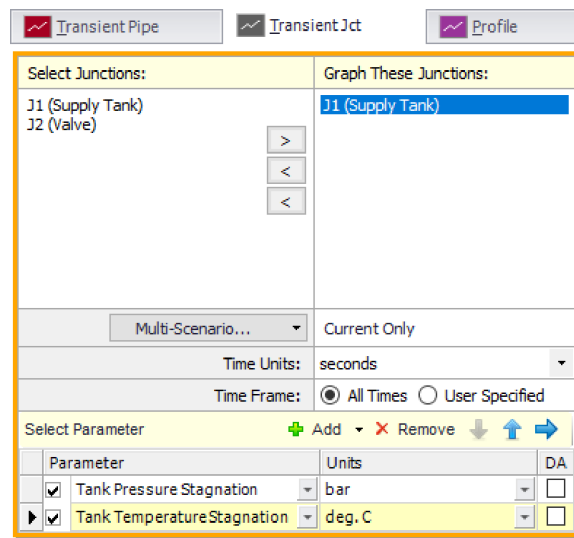

Figure 35: Graph Parameters window for the Transient Junction graph
- **Click the Transient Jct tab** on the Graph Control tab of the Quick Access Panel (Figure 35). Add the J1 (Supply Tank) junction.